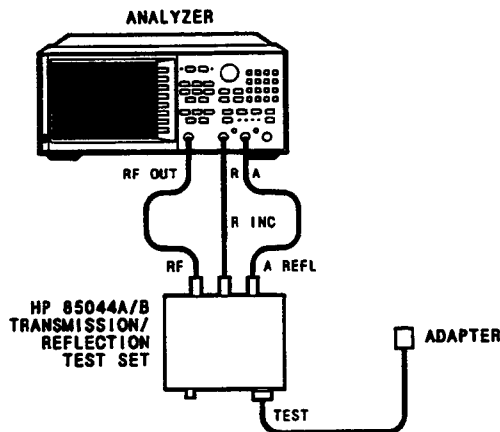

Figure 10. Input B Impedance Test Setup
1. Connect the equipment as shown in Figure 10. When using the HP 85046A or 85047A test set, connect the test set interconnect cable and use port 1. Set the HP 85044 attenuation to 0 dB. Then press **[PRESET] [MENU] [NUMBER OF POINTS] [1] [6] [0] [1] [x1]** to set up the instrument.